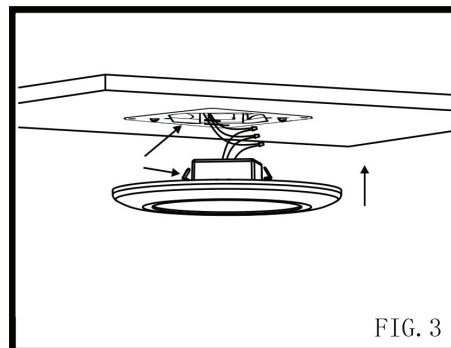

FIG. 3
4. Twist the socket adapter into the socket. (fig 3.)
2. Connect hot, neutral, and ground wires on fixture to the hot, neutral, and ground wires in the junction box using wire nuts. (fig 3) Then push wires back inside of junction box.
3. Align the two mounting clips on the fixture to the mounting clip holes in the junction box mounting plate and gently push the fixture upward until it locks in place. (fig.3)